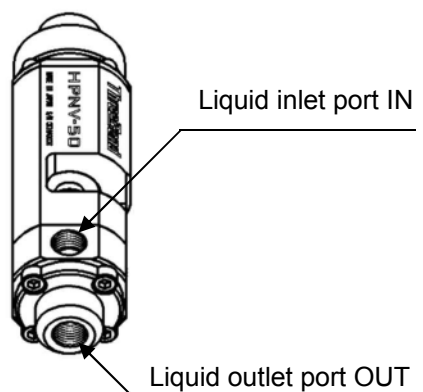

Fig. 8
- Liquid inlet port IN: Rc 1/4 (see **Fig. 8**)
- Liquid outlet port OUT: Rp 1/4 (see **Fig. 8**)